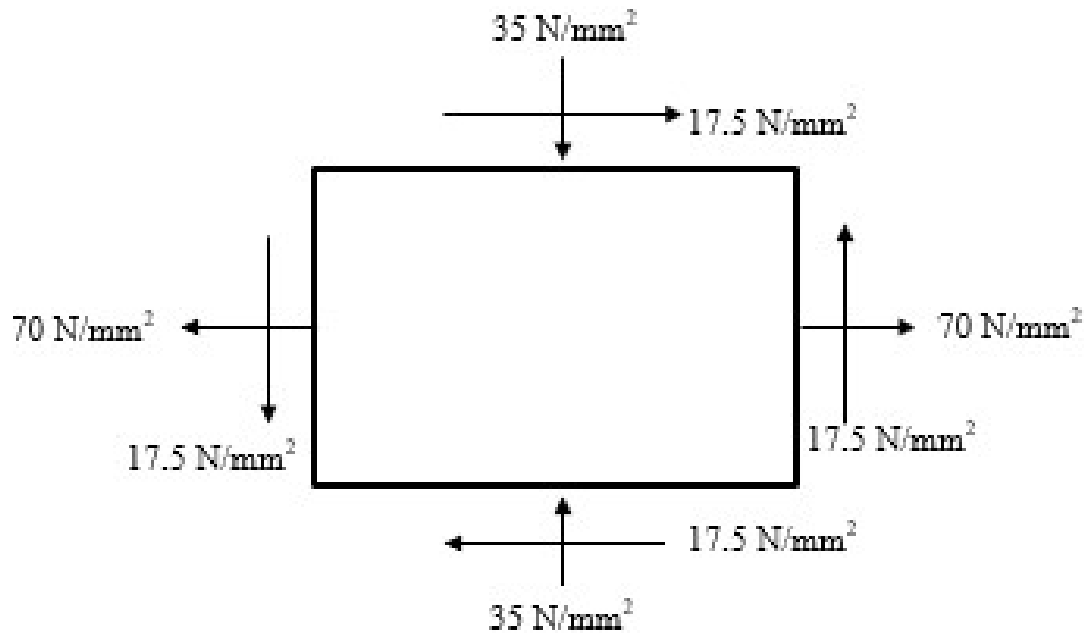

Figure 5
- (c) Two planes AB and BC which are at the right angles as shown in figure 5 carry shear stresses of intensity 17.5 N/mm^2 while these planes also carry a tensile stress of 70 N/mm^2 and compressive stress of 35 N/mm^2 respectively. Determine the principal stresses, positions of the principal planes and maximum shear stress.